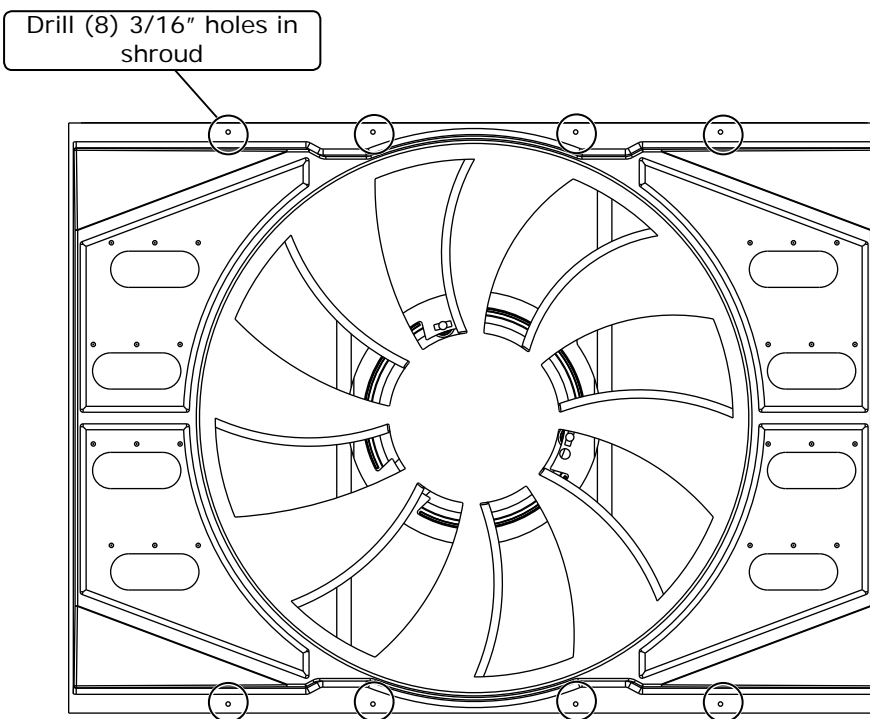

Figure 2
5. Place the fan adapter assembly bracket onto the back side of the fan assembly, pushing the studs through the shroud and bracket (See Photo 5, below). Secure it using (4) 10-32 nuts with star washers (See Photo 6, below).
6. Using the holes on the fan adapter assembly bracket as a guide, drill (8) 3/16" holes into the shroud (See Photo 7 and Figure 2, below).